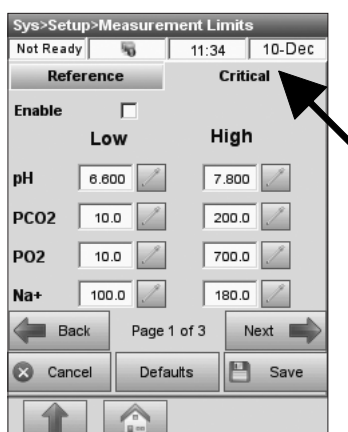

Fig. 3-27 Enter Critical Limits
6. Select the **<Critical>** tab (Fig. 3-27).